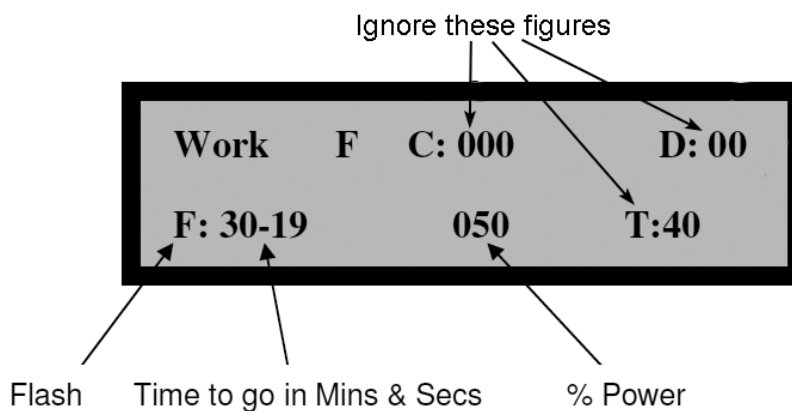

fig.7
5.6.2. **Now to Bake setting See fig.7**
5.7.1. Press S (Start) button. This enters your pre-set Flash settings mode. The display will read as per example Fig.7.